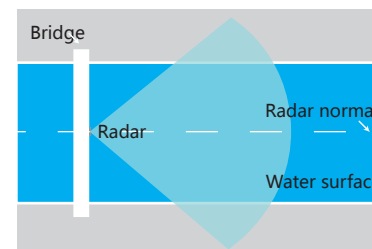

Fig.2-8
- ⑤ If the radar installation environment is for water object detection, radar install at bridge to monitoring ships on the surface of water, like figure 2-8.